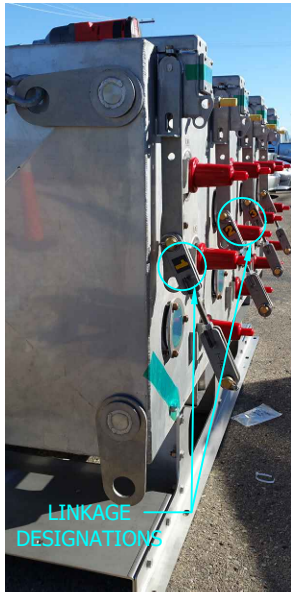

FIGURE 7
E. **MOTOR OPERATORS AND LINKAGES ARE MATED TO THE SWITCH AND IDENTIFIED AT THE MANUFACTURING PLANT.** MOUNT MOTOR OPERATORS WITH CORRESPONDING WAYS AFTER THE CABLE HAS BEEN LANDED AND PRIOR TO MOUNTING THE ENCLOSURE. SEE FIGURE 7 AND 8.